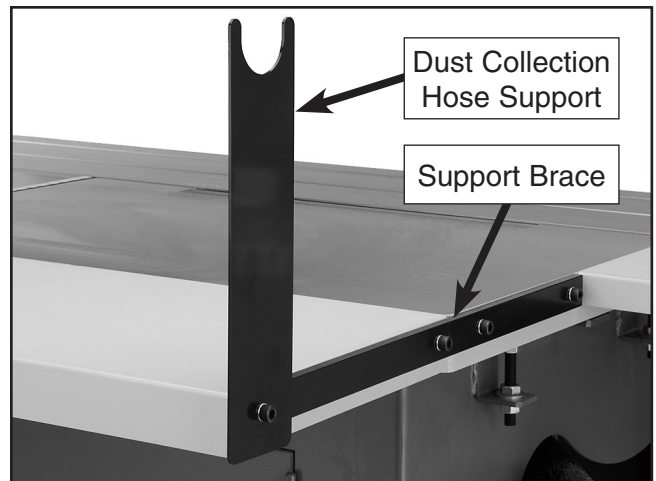

Figure 22. Support brace and dust collection hose support installation.
4. Attach the support brace (**Figure 22**) to the table with two M10-1.5 x 30 cap screws and lock washers. *Note—Do not attach the brace to the extension table until the next step.*
5. Place the dust collection hose support over the support brace as shown in **Figure 22** and thread M10-1.5 x 30 cap screws with lock washers through the remaining support brace holes and secure with hex nuts.